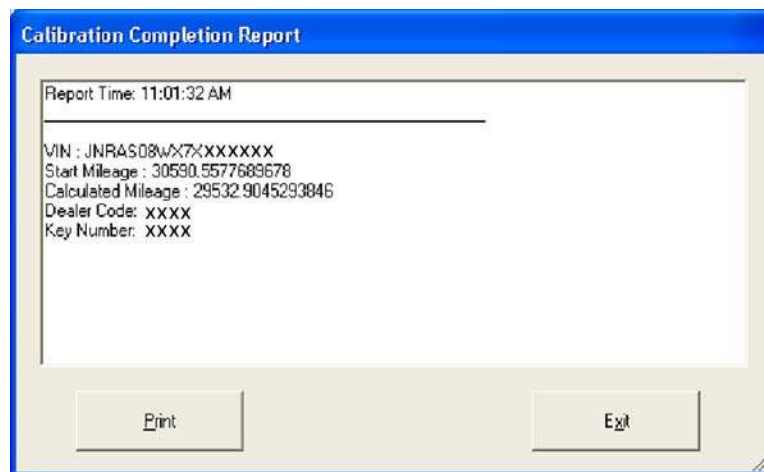

Figure 1m
23. After waiting 2 minutes, the Calibration Completion Report will display (Figure 1m).